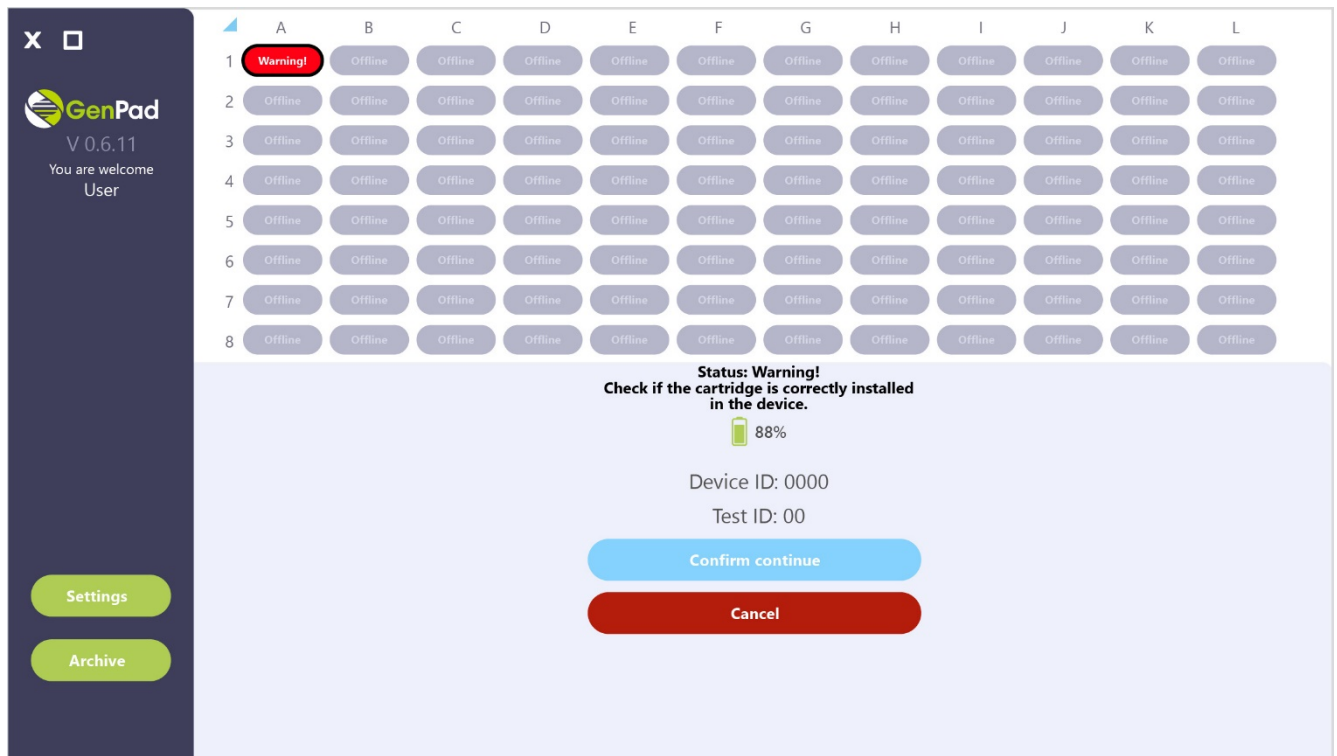
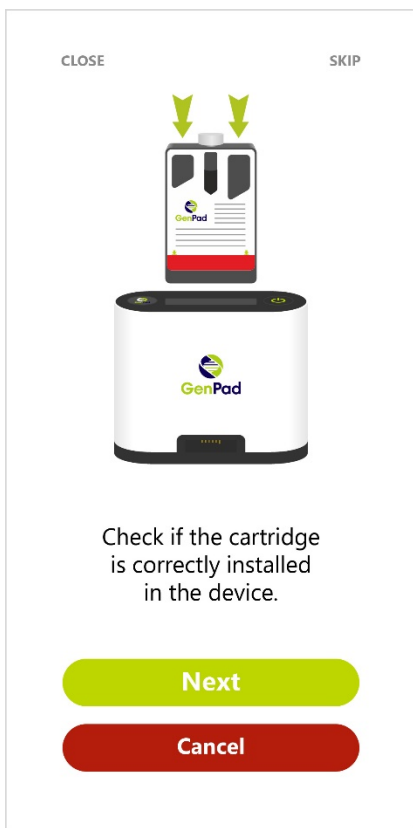

Figure 20. *GenPad* Software Informing about the Cartridge Incorrect Installation When Using a PC.
Figure 21. GenPad Software Informing about the Cartridge Incorrect Installation When Using a Smartphone.
- Make sure that the *GenPad* software does not display a warning message on the display about the incorrect installation of the Cartridge in the device (see Figure 20 and Figure 21).